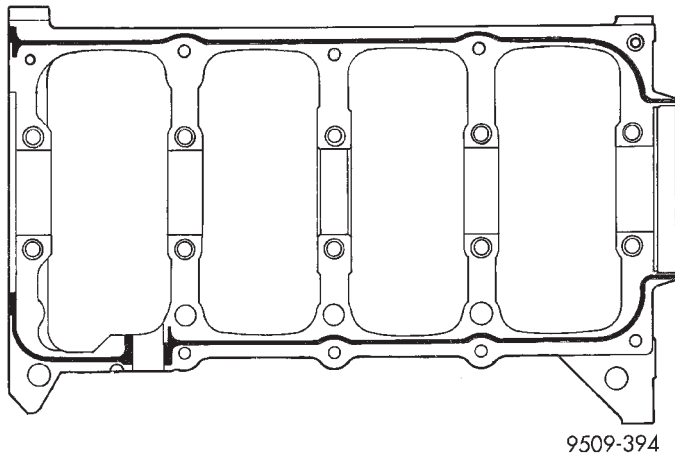

Fig. 75 Main Bearing Caps/Bedplate Sealing
- (4) Apply 1.5 to 2.0 mm (0.059 to 0.078 in.) bead of Mopar Torque Cure Gasket Maker to cylinder block as shown in (Fig. 75).
- (5) Install lower main bearings into main bearing cap/bedplate. Make certain the bearing tabs are seated into the bedplate slots. Install the main bearing/bedplate into engine block.
- (6) Before installing the bolts the threads should be oiled with clean engine oil, wipe off any excess oil.
- (7) Install main bearing bedplate to engine block bolts 11, 17 and 20 finger tight. Tighten this bolts down together until the bedplate contacts the cylinder block. Then torque these bolts to 28 N·m (20 ft. lbs.).
- (8) Install main bearing bedplate to engine block bolts (1 thru 10) and torque each bolt to 41 N·m (30